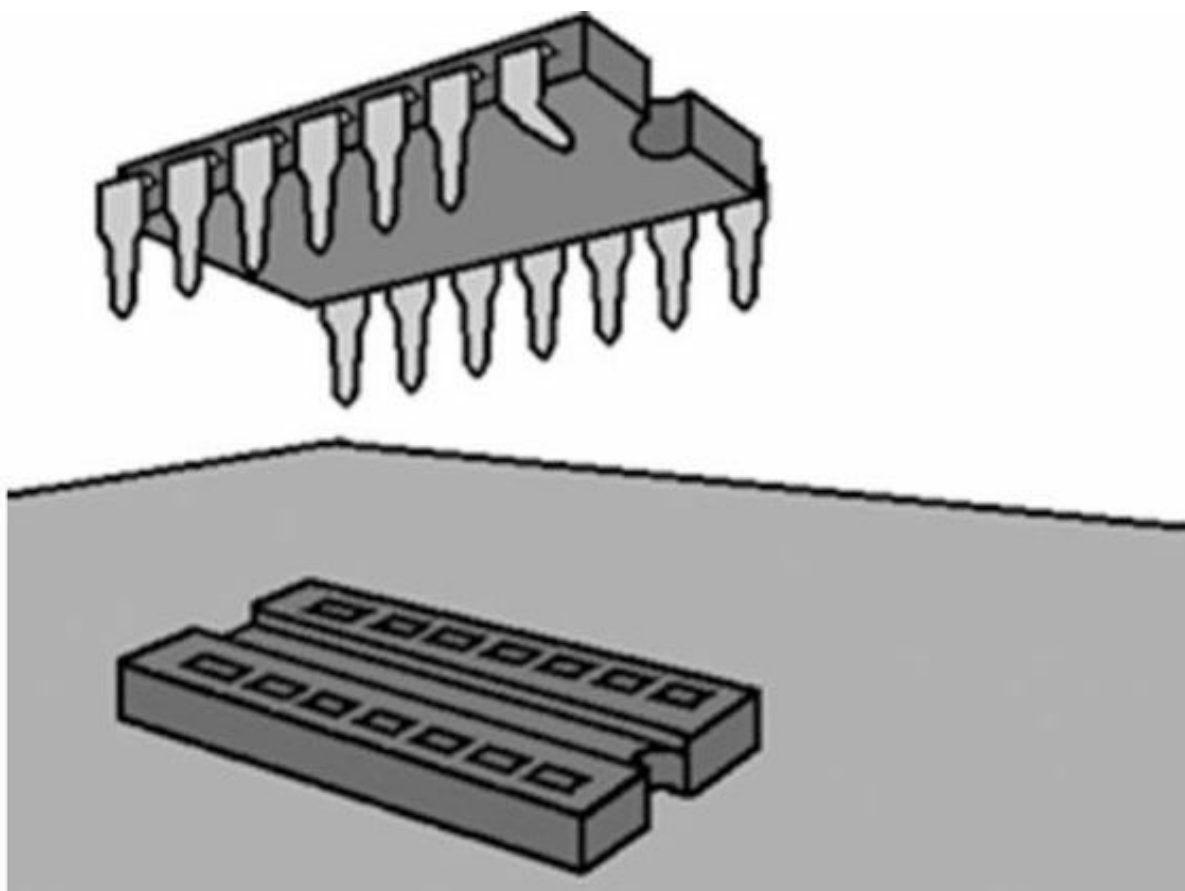

FIGURE 7.31 Bent pin.
- An IC chip can be inserted incorrectly on the board causing shorts or opens. For example, in Fig. 7.31, the bent pin that did not plug into the socket caused an open.